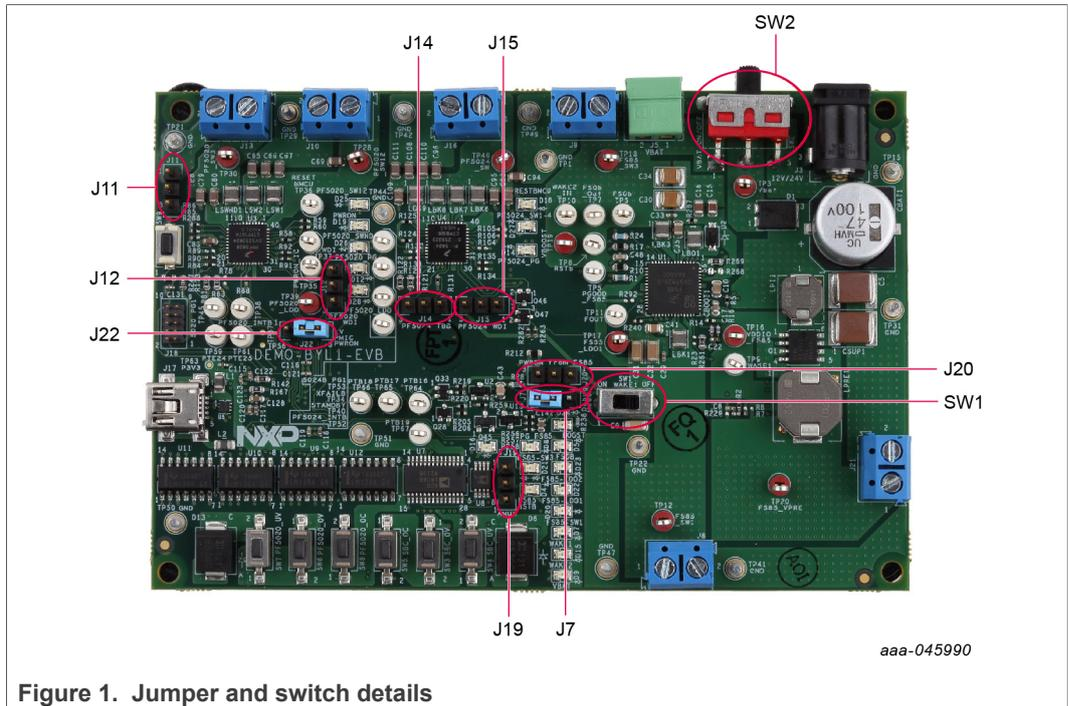

Figure 1. Jumper and switch details
Figure 1 shows the location of key BYLink multiprocessor demo board components.
1. Make sure that the board has the jumpers configured in their default positions as shown in Figure 1. The default configuration enables the board to be fully controlled by the MCU and the GUI.